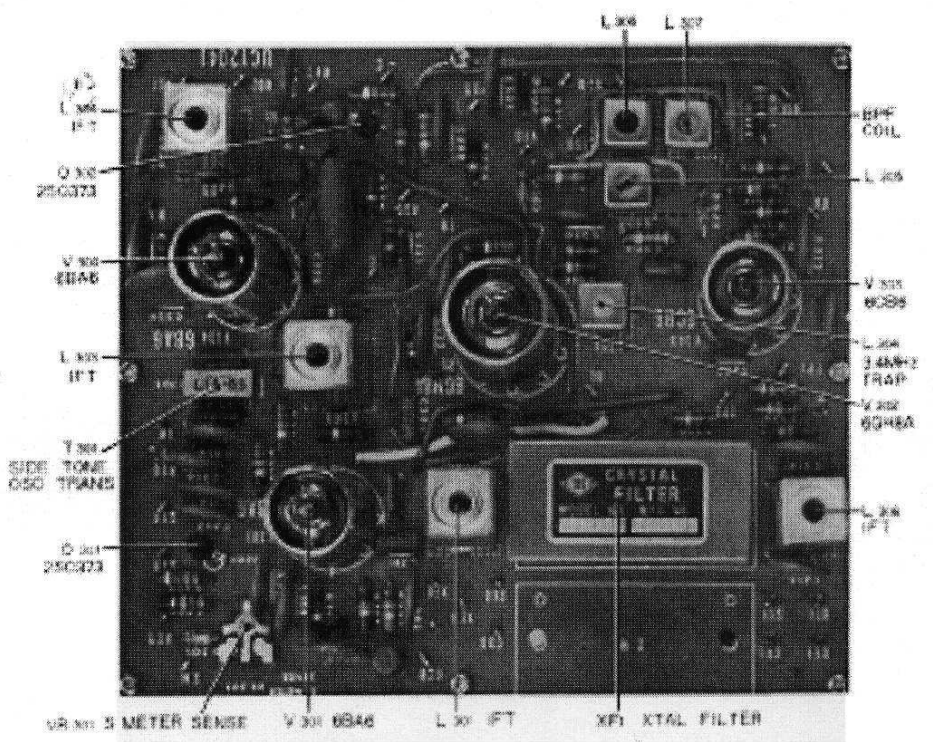

Fig. 22 IF Block
### (2) IF stage (UC1204J) Refer to Fig. 22.